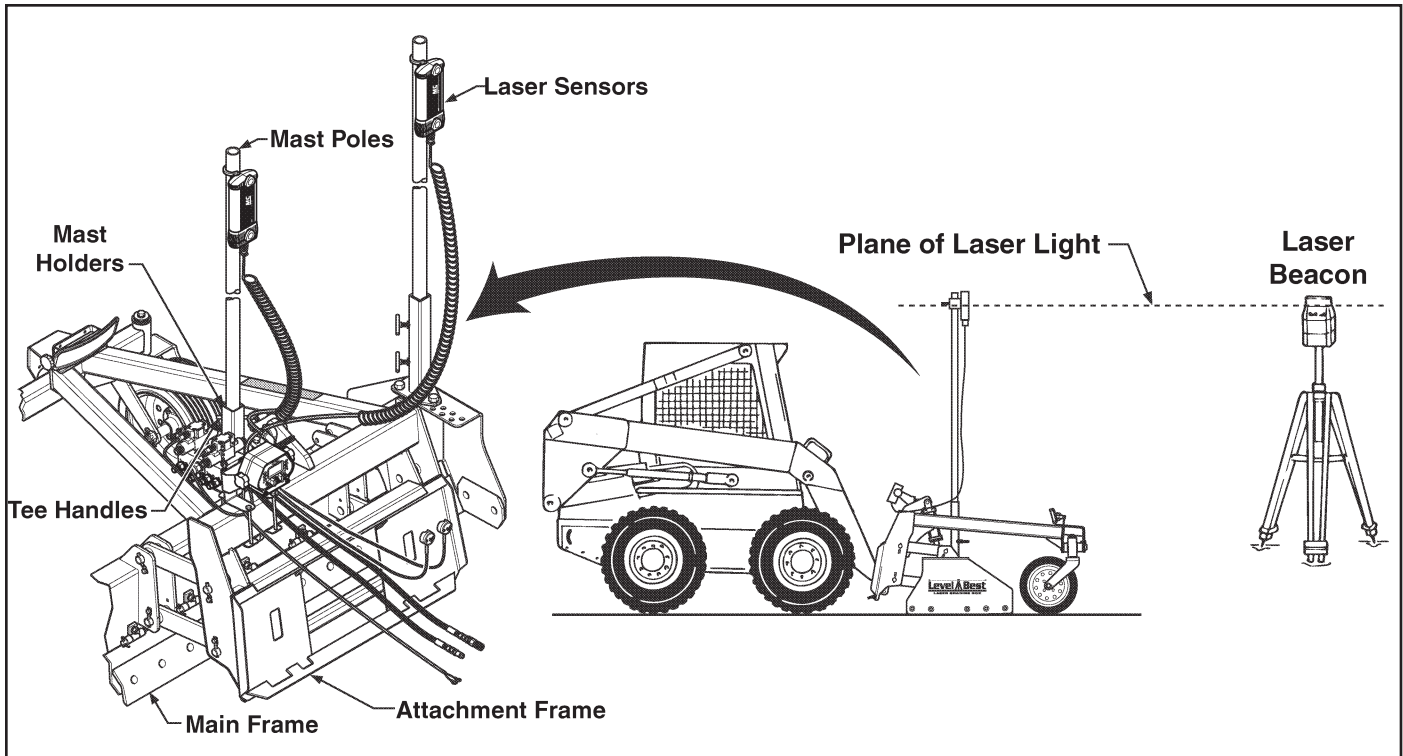

Figure 3. Components of the Automatic Control System on a Skid Steer
6. Insert the mast poles into the holders until they rest at the bottom of the tubes. Tighten the tee handles to secure the masts. Clamp the Laser Sensor near the top of the mast so it is higher than any local obstruction including the skid steer cab or fall protection devices. (Refer to Figure 3).